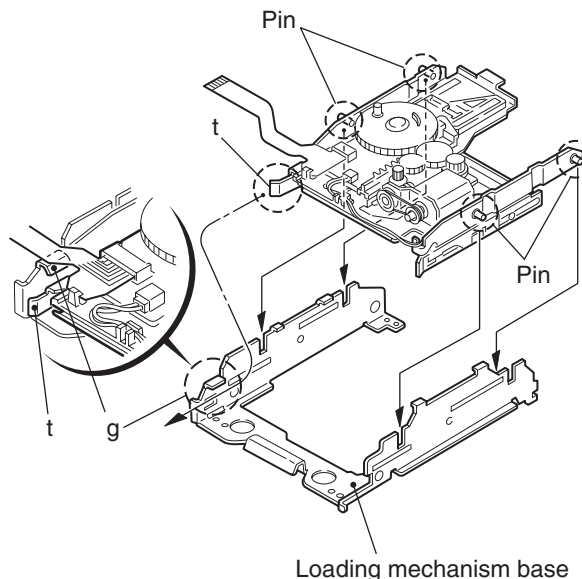

Fig.24
8. Reattach the UD base to the loading mechanism base while fitting the four bosses to the notches of the loading mechanism base respectively (see Fig.24).